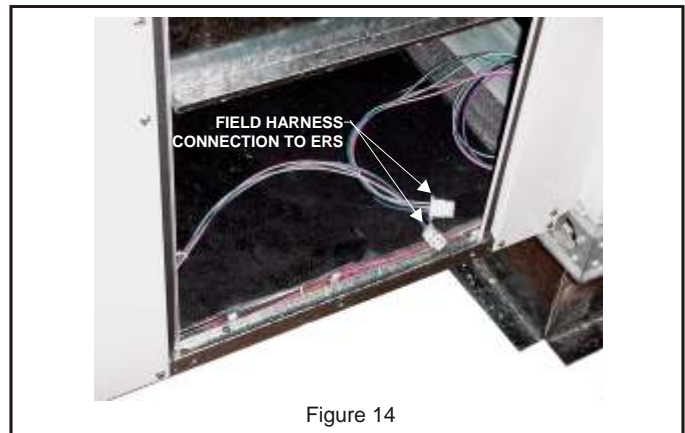
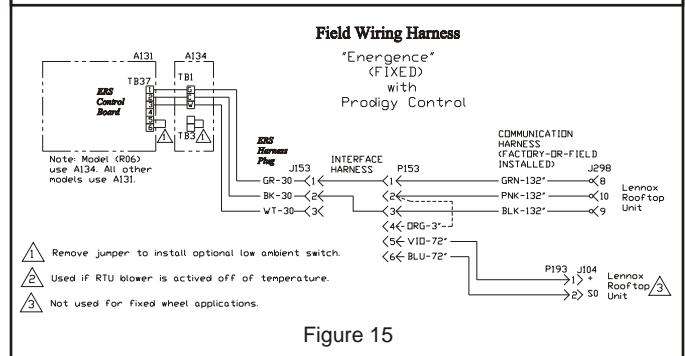

Figure 14
Figure 15
11. Remove the right front (rooftop unit side) access panel and locate the field wiring harness that was previously routed into the return air of the rooftop unit. Plug the field wiring harness into the connector located at the bottom of the access door inside the ERS. **See Figure 14 and Figure 15.**